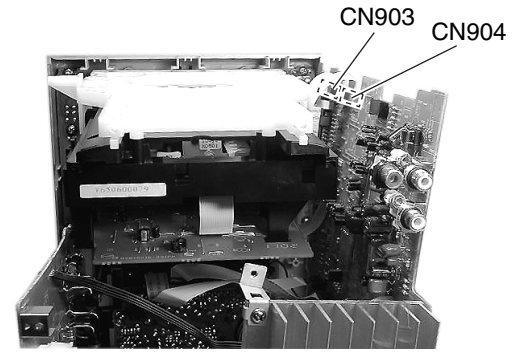

Fig. 11
■ Removing the CD mechanism assembly (See Fig. 11 & 12)